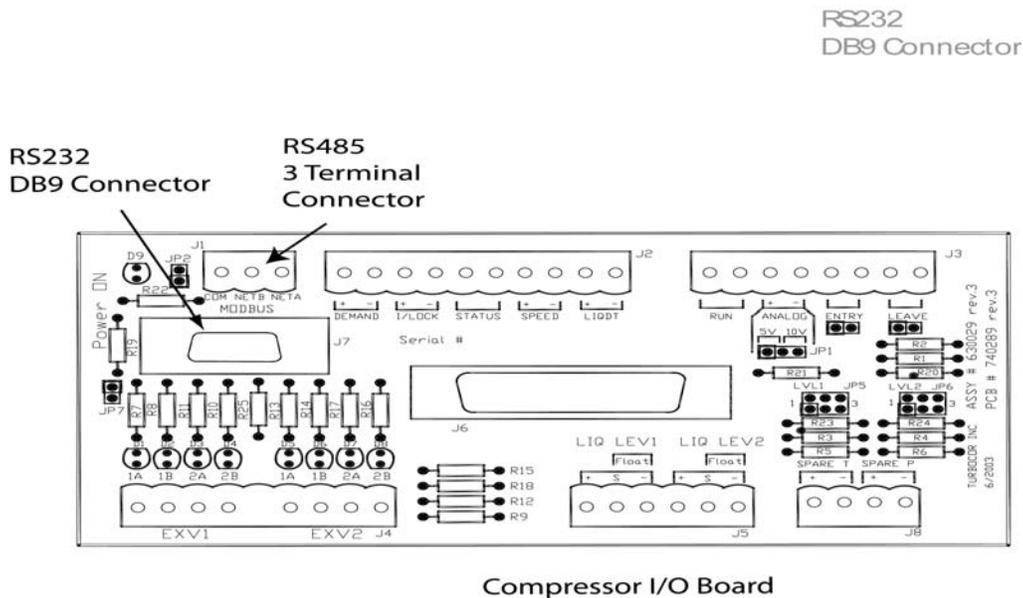

Figure 33 RS-232 and RS485 Connectors - Compressor I/O Board
1. Connect one end of the **RS-232 cable** (user-supplied) to the **DB9 connector** on the Compressor I/O Board (see Figure 33).